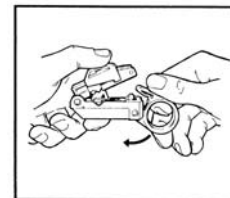

Figure 17
**A.** Open the tool by rotating locking latch downwards (Fig. 17).